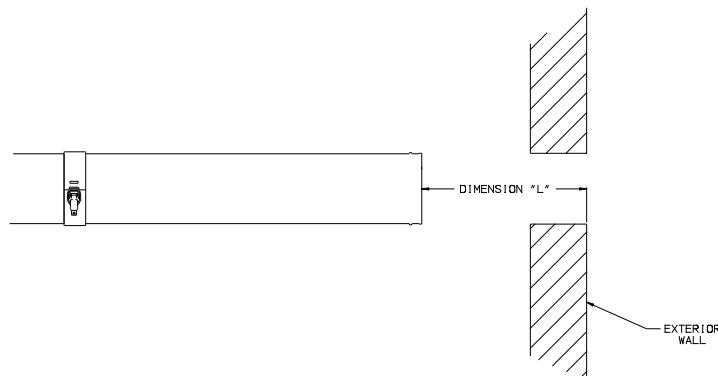

Figure 7.34a: Dimension "L", 80/125mm Horizontal Terminal
- b) Measure distance "L" from the outside surface of the exterior wall to the end of the last fitting as shown in Figure 7.34a.